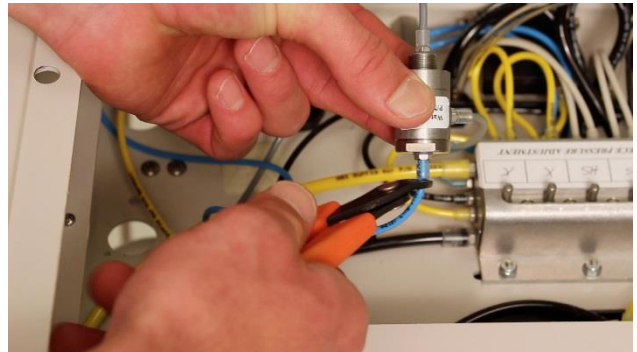

Fig. 4
5. Note the location of the blue water lines and the grey air signal line. Clip all the tubing close to the barbs. (Fig. 4)